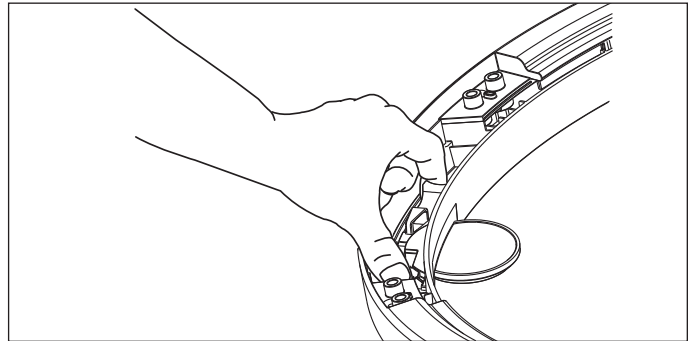

Figure 2-34.
1. Grasp the indicator on the latch side between finger and thumb and rock it upward, pivoting away from the center of the glass. (See Figure 2-34)